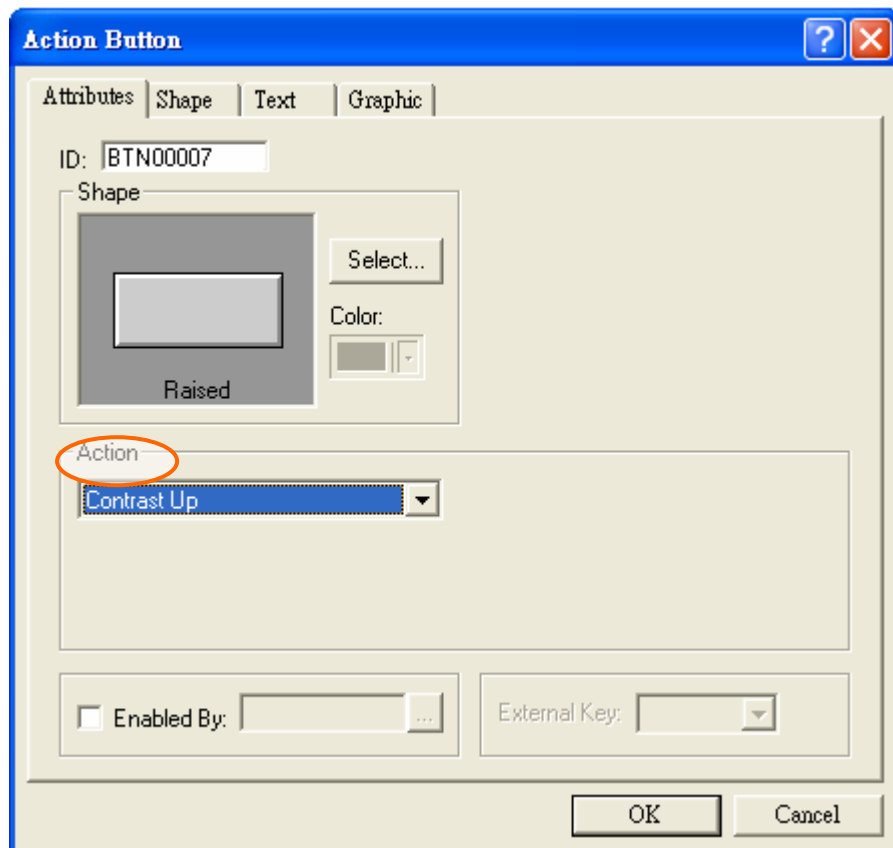

Figure 116. Select [Contrast Up] in [Action]
1. The [Action] is “Contrast Up”. See Figure 116.